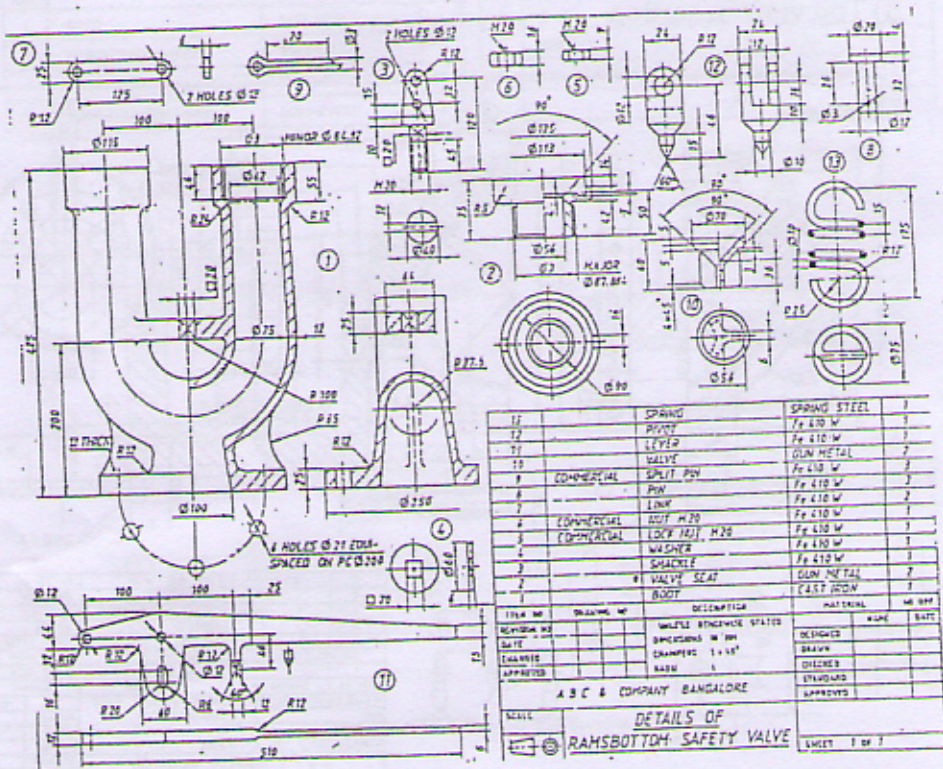

Fig. 4
6. Fig.4. shows the details of a Spring loaded safety valve. Draw the following views after assembling the parts.